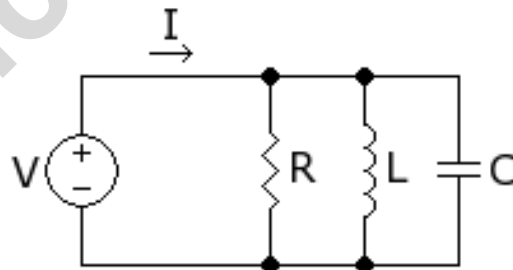

Figure 1: Parallel Tank Circuit
- A parallel tank circuit as shown in figure 1 and
First start with the parameter calculations for a parallel tank circuit as shown in figure 1.